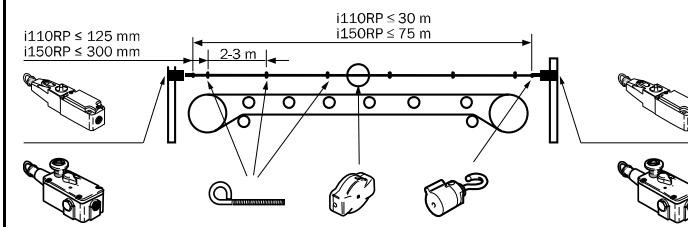

Fig. 2: Example of an installed rope with all components.
2.2 Actuation rope system layout (Fig. 2)